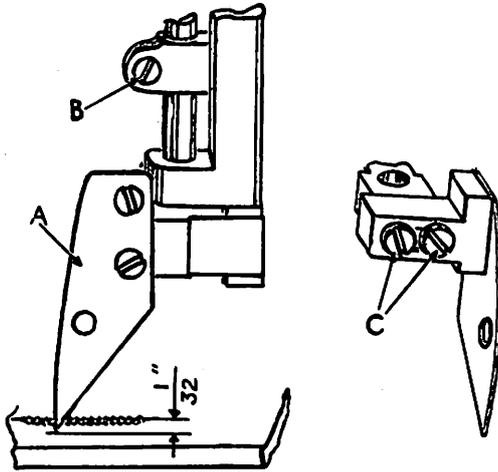

Fig. 16
The bag trimming knife (A, Fig. 16) should be set centrally in the knife slots in the presser foot and throat plate. It should also be set so that when at its highest position, the point of the knife is $1/32$ inch below the surface of the throat plate. In order to set the knife for height loosen knife driving stud clamp screw "B" which allows the knife and knife holder to be moved up or down to proper position. To set the knife laterally, loosen screws (C) and locate knife in center of knife slot.